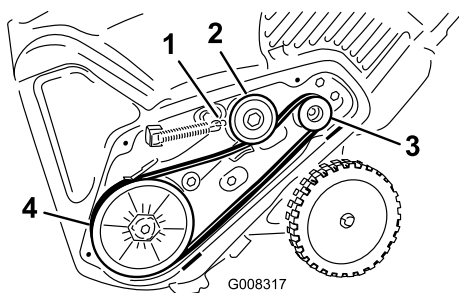

Figure 36
5. Install the new drive belt, routing it as shown in (Figure 36).
8. Install the brake spring onto the idler arm (Figure 36).